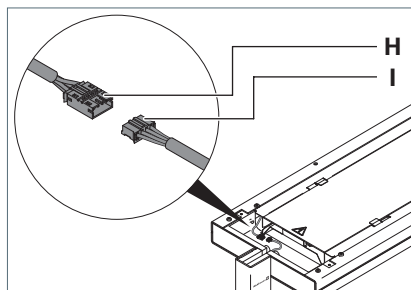

Fig. 15: Connecting the light head, Part 1
- Connect the plug **I** to the socket **H** at the light head, see Fig. 15.